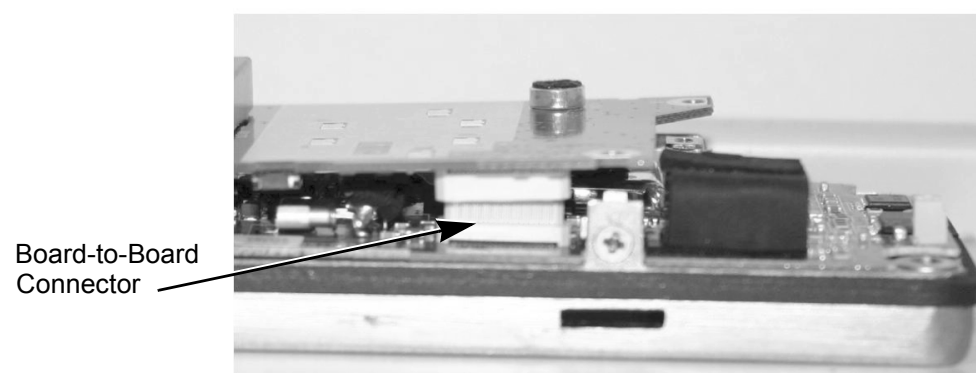

Figure 2-7.
2. Connect the control board to the RF board by pressing it firmly downwards at the board-to-board connector (See Figure 2-7).